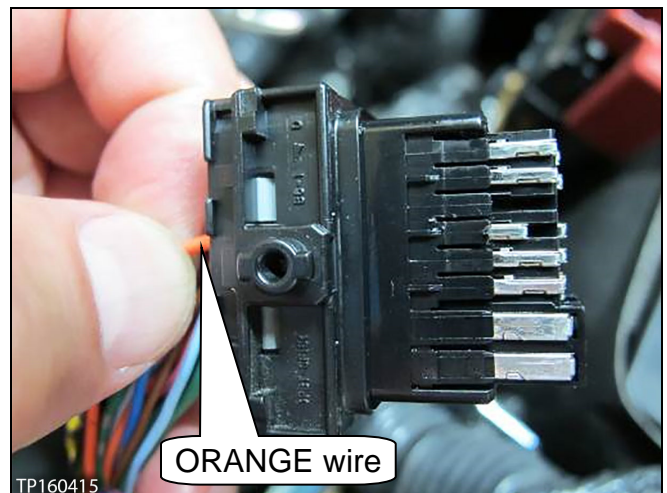

Figure 13
- b. Pull out the ORANGE wire and its terminal from connector E16 (see Figure 13).